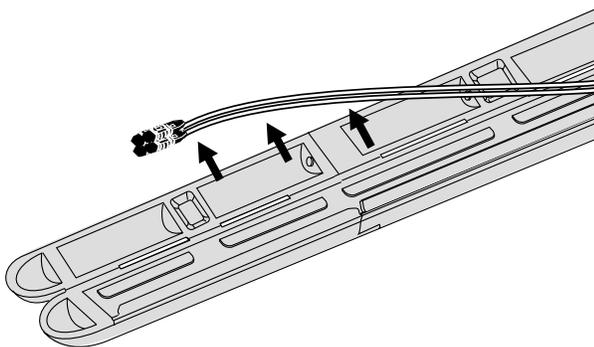

Figure 11
a) Carefully remove the connectors and their legs from beneath the routing guides (Figure 11).